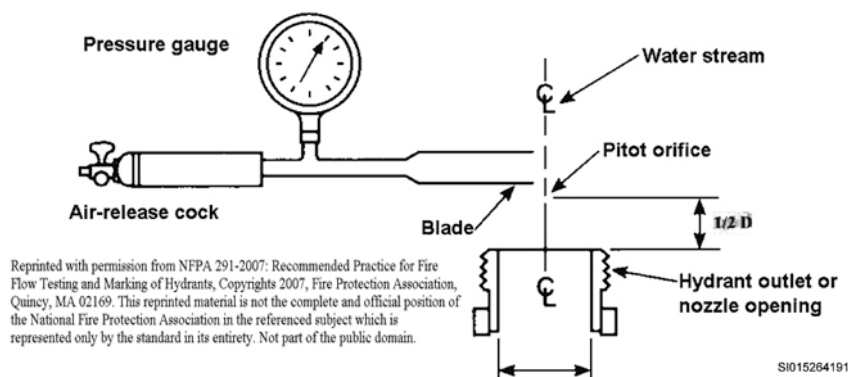

Figure 2-13. Pitot tube position in the hydrant opening.
Use a pitot tube to measure velocity flow. Insert the flattened end of the pitot tube halfway into the center of the water flow on hydrant (B) (fig. 2-13). Close the petcock on the pitot tube when a steady stream is observed through the petcock—allowing all trapped air to be released. Record the gauge reading when the needle comes to rest. This is called the velocity pressure. Watch the gauge and write the velocity pressure reading in a log for that particular fire hydrant. After all hydrant readings have been taken, be sure to shut down each hydrant slowly to prevent surges in pressure throughout the system. If all hydrants tested are low, it is possible that the base water pressure is also low.